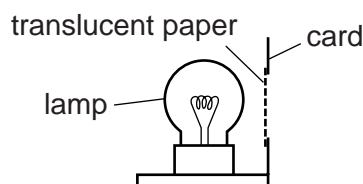

Fig. 4.1
- (ii) Illuminated object with a triangular hole of height 1.5 cm (see Figs 4.1 and 4.2). The hole is to be covered with thin translucent paper (e.g. tracing paper).